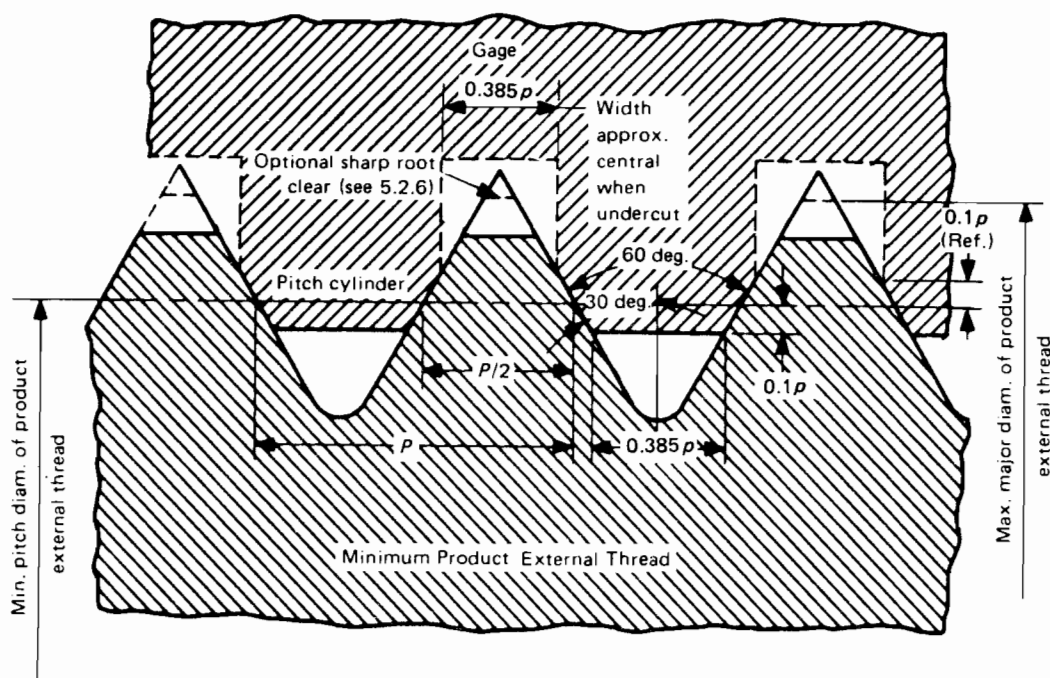

FIG. 19 LO FUNCTIONAL DIAMETER LIMIT
5.2.4 Thread Form. The specifications for thread form are summarized in Table 4 and Fig. 19.